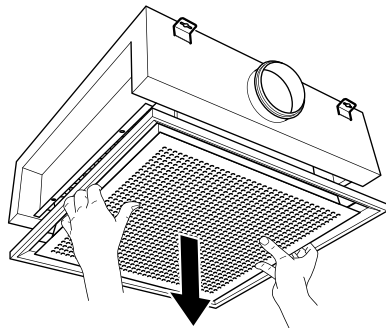

FIGURE 22
- 1) Air flow patterns can easily be adjusted at any time to suit a zone's changing needs. To adjust the airflow pattern on the LYRA II IQCC, lower the front plate and adjust the blades on the inside edges of the front plate. (See **FIGURE 22**)